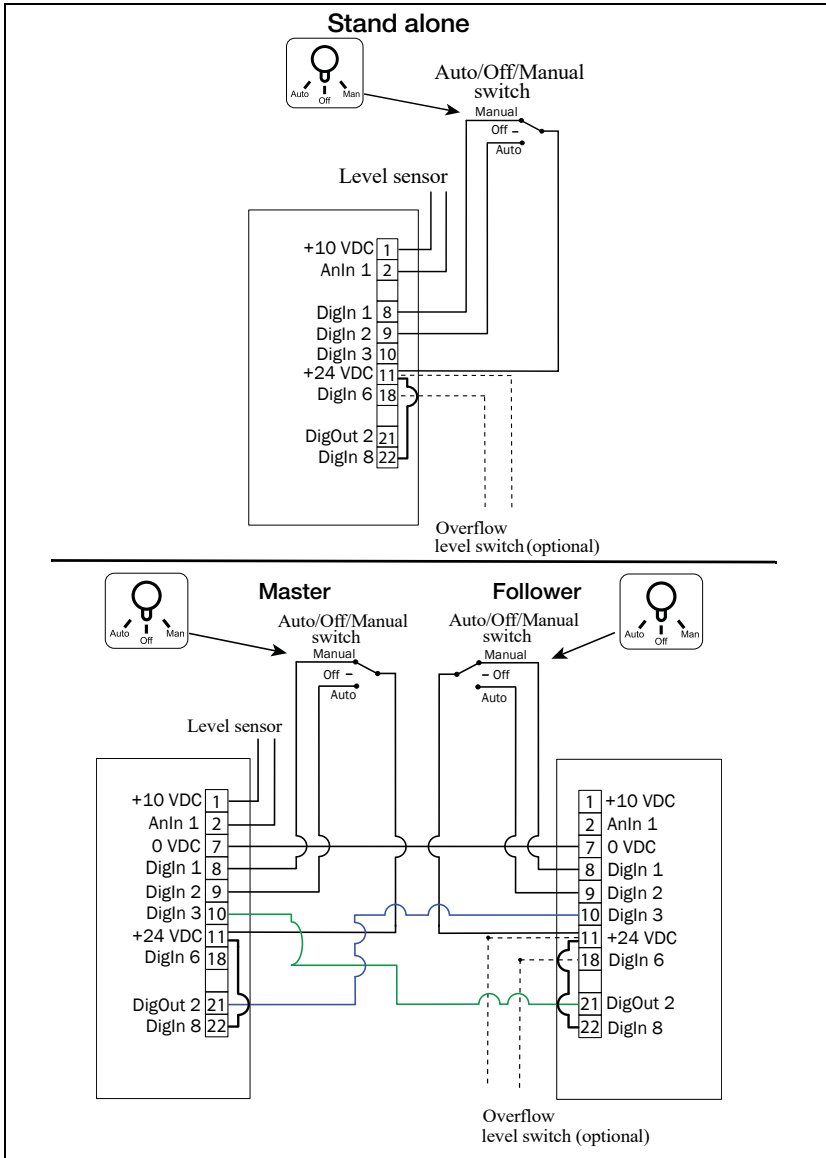

Fig. 14 General control I/O minimum wiring examples.
1. Connect a level sensor between terminals 1 (+10 VDC) and 2 (AnIn 1) as in Fig. 14 The default setting for the AnIn1 is 4-20 mA. If the level sensor has a 0-10 V interface, change the position of the jumper (S1) on control board (chapter 3.3 page 30).
2. Connect an external Full speed switch between terminal 11 (+24 VDC) and 8 (DigIn1, Flow Run) as in Fig. 14. Set the switch in the open position (digital input set to low state). (Do not activate the signal at this point.)
3. Connect an external Auto run switch between terminal 11 (+24 VDC) and 9 (DigIn2, Flow Auto) as in Fig. 14. Set the switch in the open position (digital input set to low state). (Do not activate the signal at this point.)
4. Connect a communication cable between Master terminal 10 (DigIn3) and Follower terminal 21 (DigOut2) as in Fig. 14. (Only if Master/Follower).
5. Connect a communication cable between Master terminal 21 (DigOut2) and Follower terminal 10 (DigIn3) as in Fig. 14. (Only if Master/Follower).
6. Connect an overflow level switch (optional) between terminal 11 (+24 VDC) and 18 (DigIn6, Lvl Overflow) as in Fig. 14 Connect the signal to the Follower drive instead in a Master-Follower configuration for redundancy.